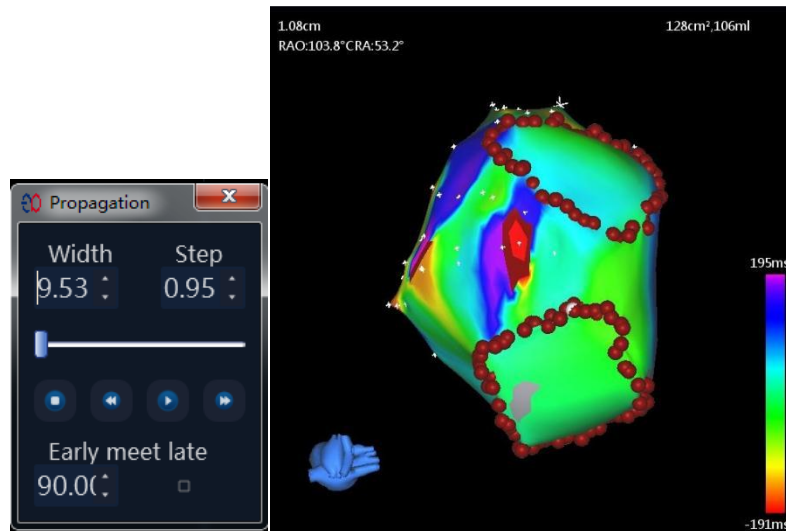

Figure 10-6 Early Reception Area
To detect these areas, the system checks the difference in LAT between two adjacent points based on the range defined by the automatic color range. If the difference is greater than or equal to the criterion, a piece of the oldest and the last end-to-end area is displayed on the map and displayed in dark red (covering the normal interpolation color) (Figure 10-6 right).
- 1) Click the Activation Conduction icon () on the toolbar to open the Activation Conduction Setup dialog box (Figure 10-6, left).